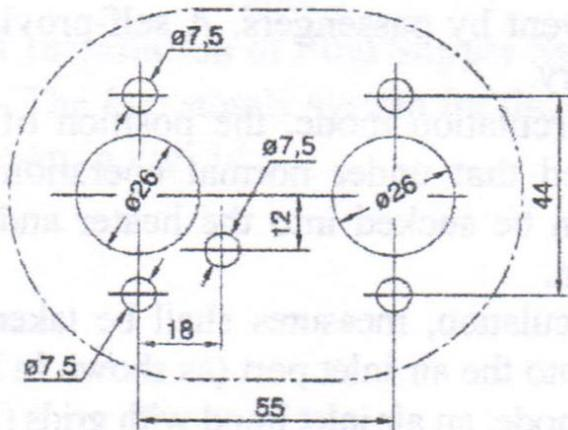

Fig 9
1. Place the rubber gasket (Fig 9 part No11) where the heater is to be installed, using a marker pen trace the gasket and mark the 7 holes.